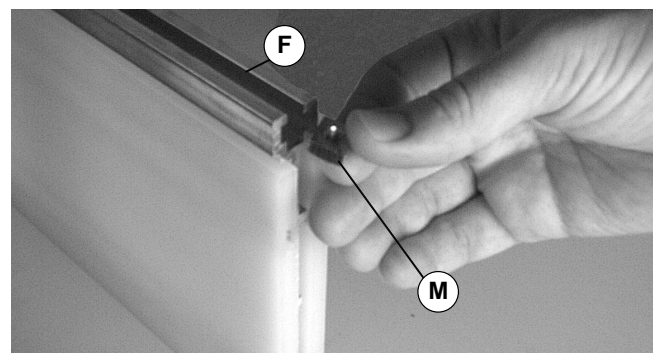

Figure 12
- Install square nuts (M of Figure 12) in each lane guide (F). Position each nut to its approximate mounting location.